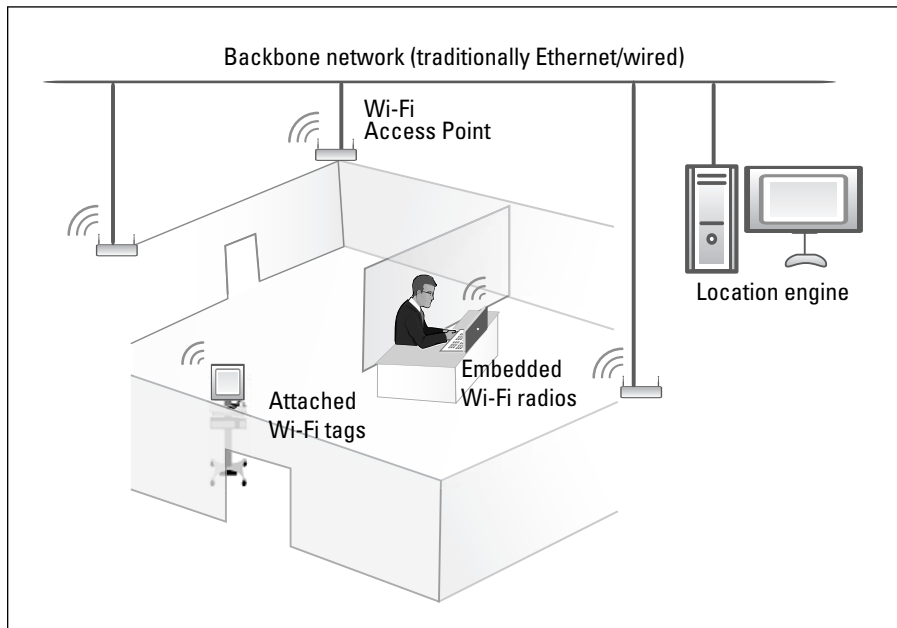

Figure 11-2:
- ✓ **Network-based:** As shown in Figure 11-2, in network-based implementation, the working principle is